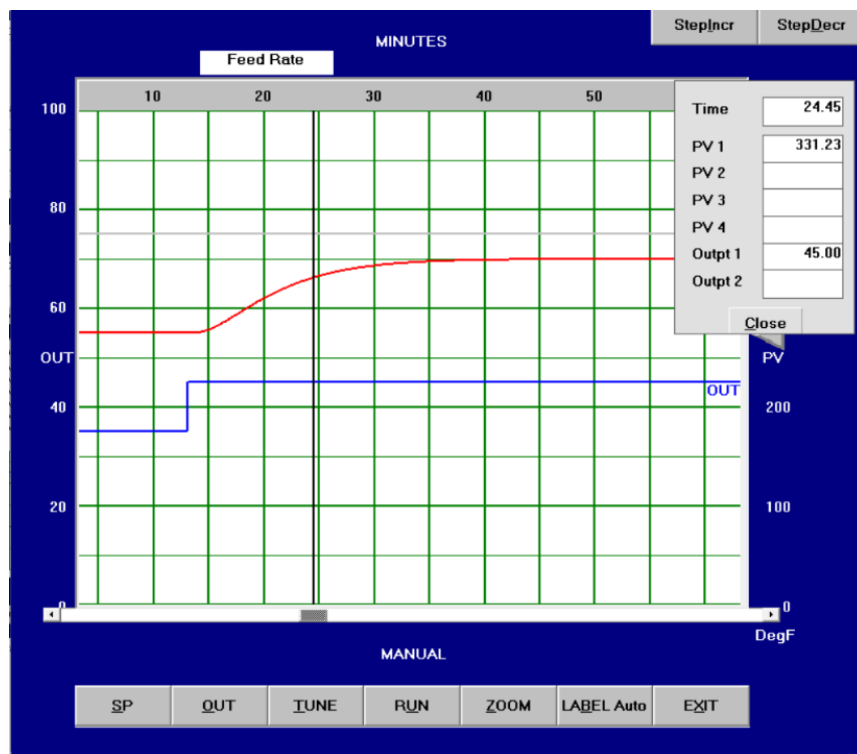

Figure 15. Time of 75% of PV change
- $t_{75} = t(PV = 275 + 75 * .75 = 331.25) = 24.45 - 13.00 = 11.45 \text{ minutes}$ (as shown in fig 15)